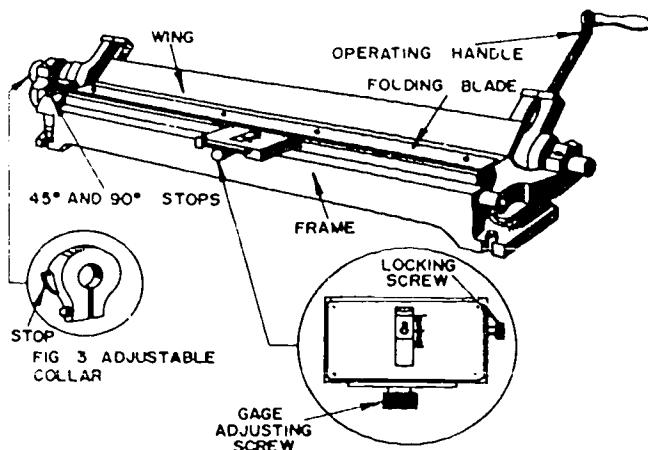

Figure 3-1. Bar folder.
**Bar Folder.** The bar folder, shown in figure 3-1, is designed to make bends and folds from  $0^\circ$  to  $165^\circ$  along the edges of sheets up to 43 inches in width. The thickness capacity of the bar folder illustrated is 20-gage material. This is the machine generally found in most sheet metal shops. The width of the folds, or gaging range, is usually from  $3/32$  to 1 inch, depending on the thickness of the material; the thinner the gage, the smaller the fold. The maximum diameter for wire edged folds is  $1/4$  inch. The bar folder is best suited for forming small hems (double or single), right-angle folds, rounded folds, and acute folds (less than  $90^\circ$ ).
The bar folder is adjusted for different thicknesses of material by adjusting the wing pressure screws at each end of the folder. These adjustment screws are not visible in figure 3-1, but each consists of a threaded shaft with an adjusting nut and a locking nut which are tightened with a wrench to increase or decrease the distance between the wing and folding blade. After the folder has been adjusted, each end of the machine is tested separately by folding a small piece of metal. Take care not to adjust the bar folder to the extent that clamping pressure is excessive because too much pressure can damage the machine. Excessive clamping pressure is easily detected, because the machine does not operate freely.
The width of the fold is controlled by the gage adjusting screw (shown in fig. 3-1), which can be turned either clockwise or counterclockwise. This screw moves the slide and gage bar back and forth for the desired fold. The gage bar is under the folding blade and is not visible when you stand in front of the folder. Although the gage is graduated in fractions of an inch, a 6-inch rule is used for an accurate measurement by sliding the rule between the jaw and blade and holding it against the gage bar. After the measurement has been made, the gage is locked in place by tightening the lock screw, which is on the right side of the gage.